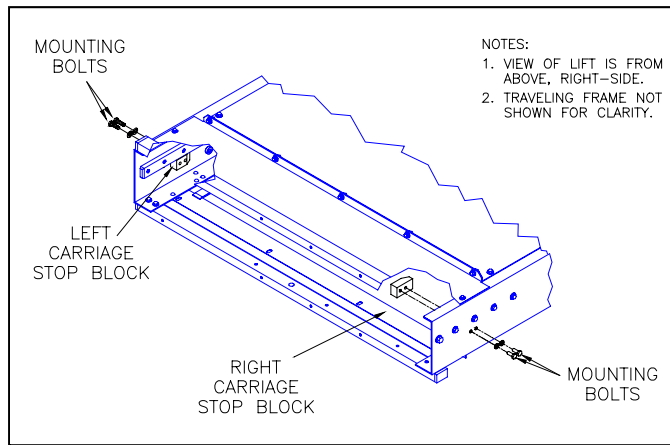

FIGURE 4-15: CARRIAGE STOP BLOCK LOCATIONS
- e. Refer to **Figure 4-15**. The carriage stop block mounting bolts are accessible from under vehicle, or from the front of enclosure. Remove bolts and both stop blocks.